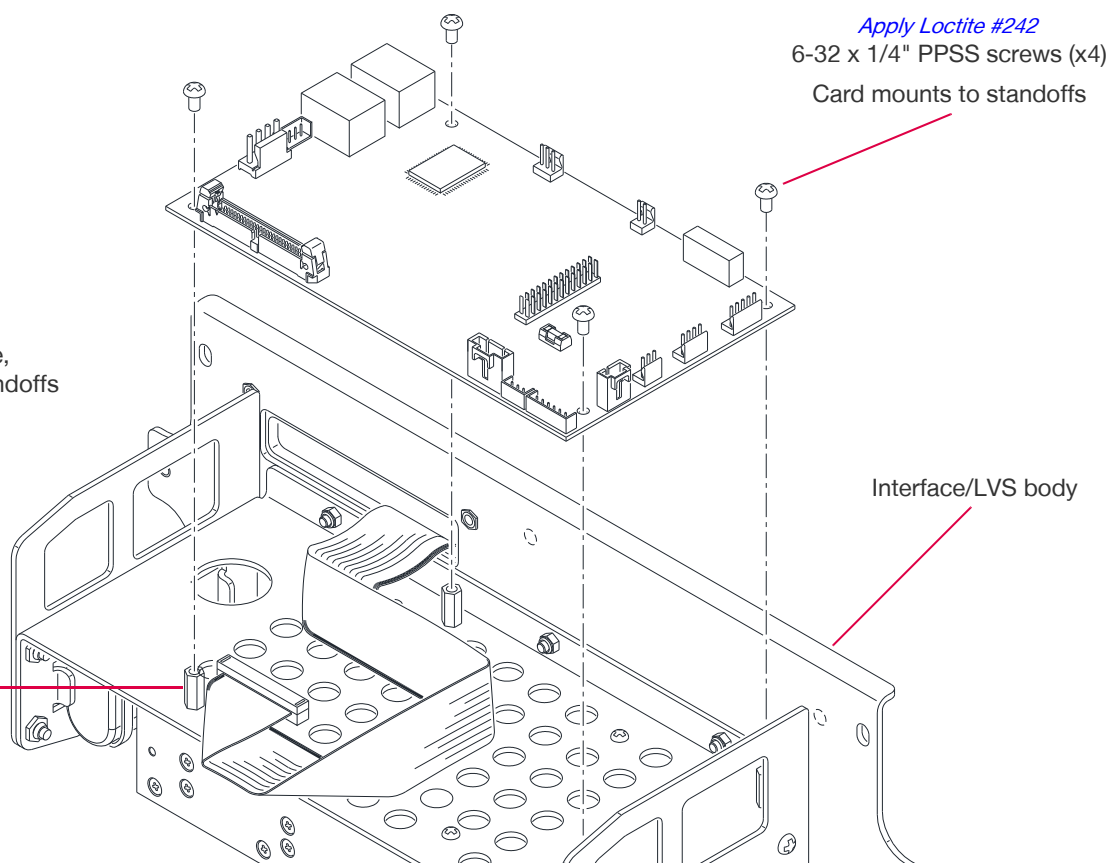

Figure 3-62: Removing the Interface/LVS Main Controller PCB
- Step 5. Remove the four 6-32 x 1/4" PPSS screws from the Main Controller PCB; these screws are mounted into 6-32 x 1/4" hex standoffs under the card, so if these come loose while removing the card, they will need to be re-mounted into the Interface. **(Figure 3-62)**